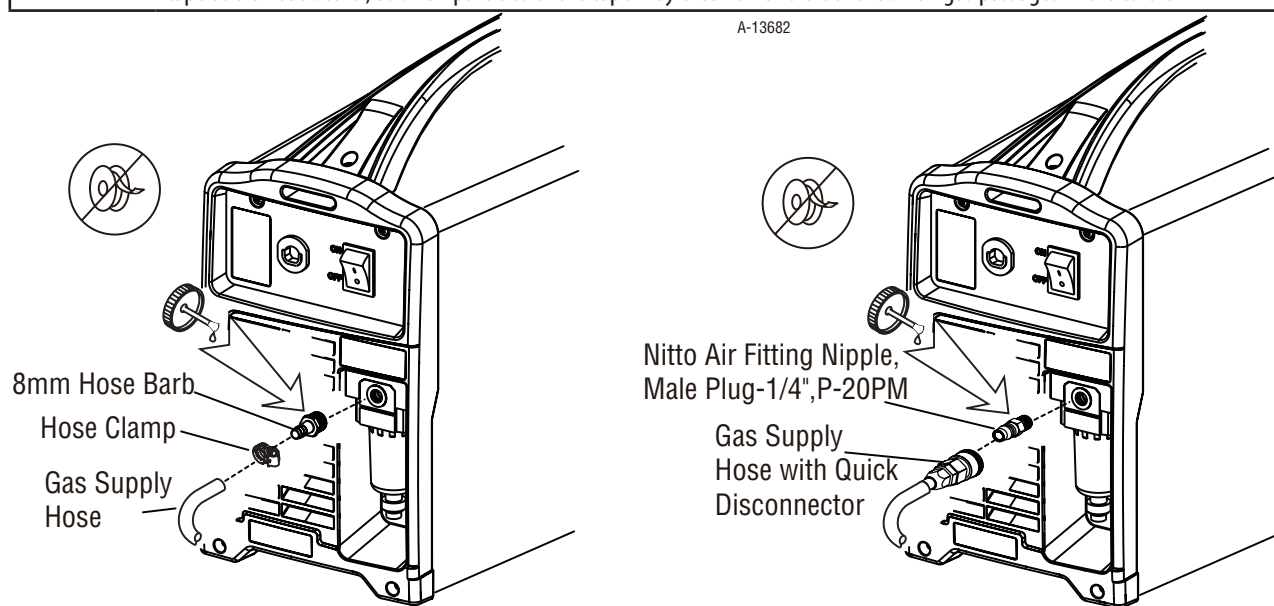

Figure 3-2: Gas Connection to Compressed Air Input
3. Connect the gas line to the connector with quick disconnect or clamp. Refer to Figure 3-2.